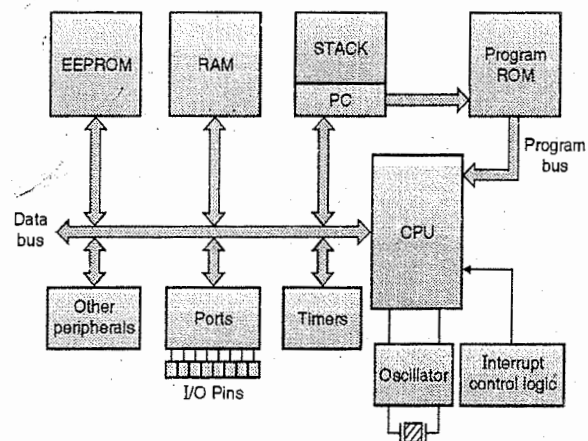

Fig. 4.2.1 : Block diagram of PIC microcontroller
- Fig. 4.2.1 shows the block diagram of PIC microcontroller:
- As shown in Fig. 4.2.1 the PIC microcontroller consists of on-chip ROM, RAM, Timers, I/O ports.